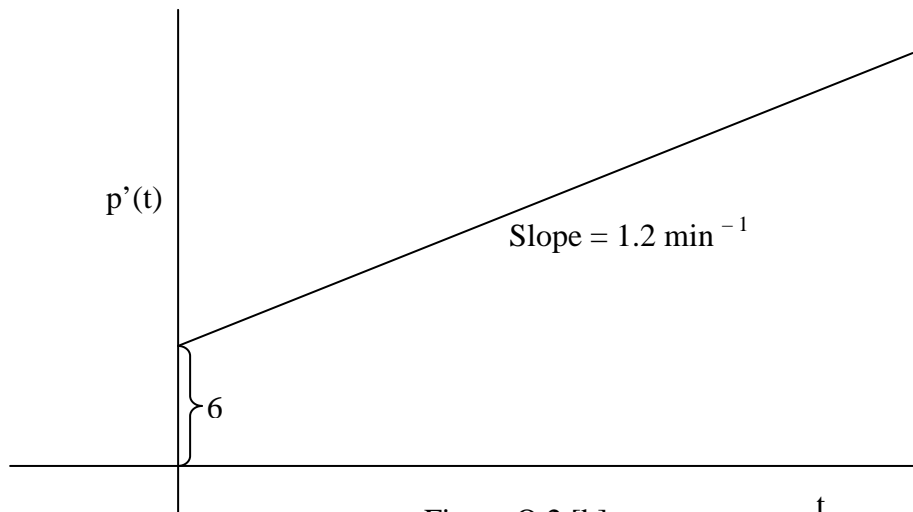

Figure Q.2.[b].
- [b] If the input  $Y_m$  to PI controller changes stepwise ( $Y_m(s) = 2/s$ ) and the controller output changes initially as in Figure Q.2.[b], what are the values of the controller gain and integral time?